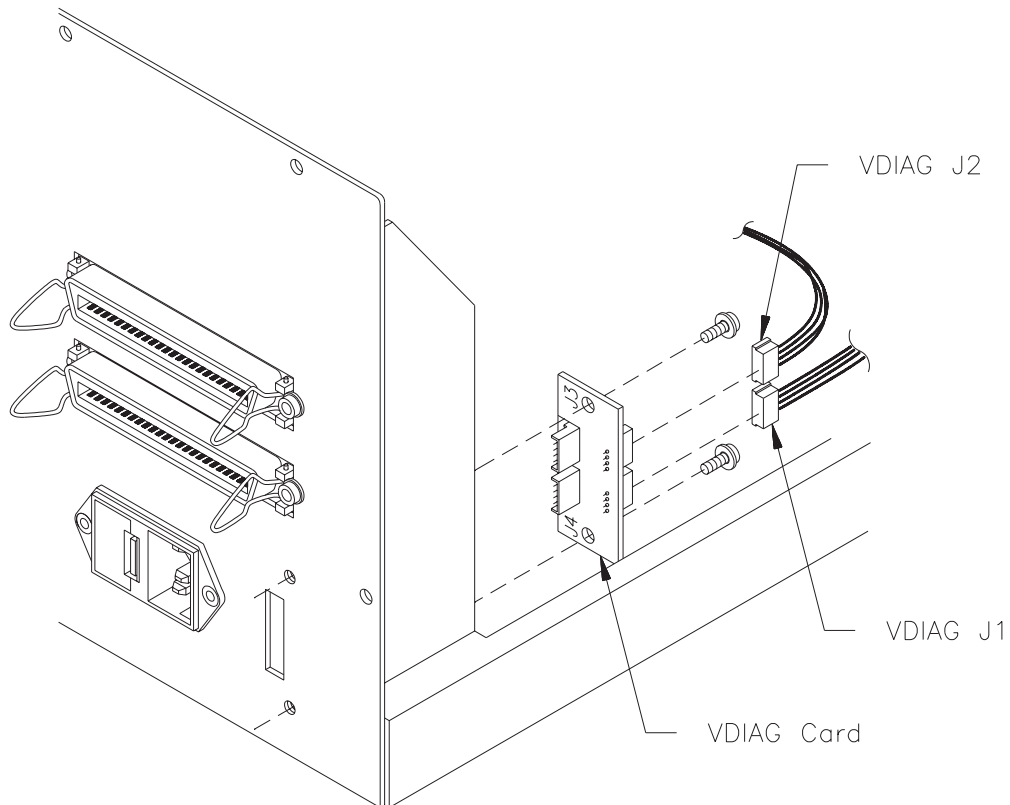

Figure 14-3 VDIAG card (removed from the CHS)
4. Locate the VDIAG card in the back of the CHS. This card is directly behind the maintenance port, as shown in Figure 14-3. Disconnect the two sets of cables, labeled “VDIAG J1” and “VDIAG J2,” from the VDIAG card.
1. Align the screw holes on the VDIAG card with the screw holes on the chassis. See Figure 14-3 for the location of the screw holes. Using a T-15 bit, replace the two screws (#6-32 × 0.25 pan-head machine screws). Tighten to 12.0 inch-pounds of torque (13.8 kg-cm).